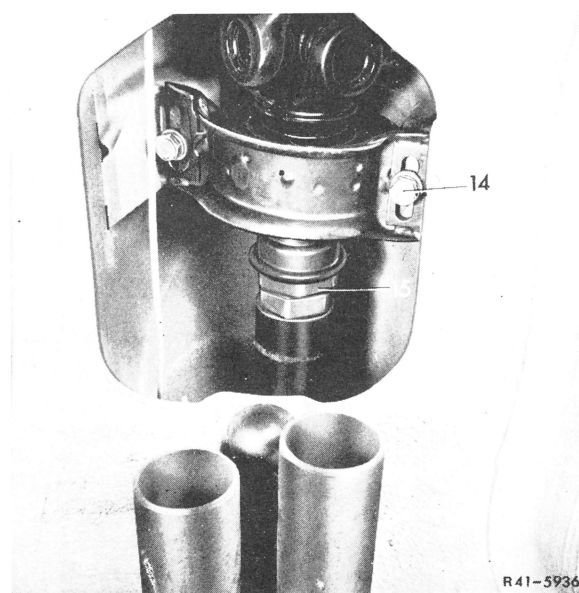

Fig. 4
- 7 Loosen clamping nut (15) and unscrew propeller shaft intermediate bearing on frame floor (Fig. 4).
27 Tighten propeller shaft intermediate bearing (Fig. 4).